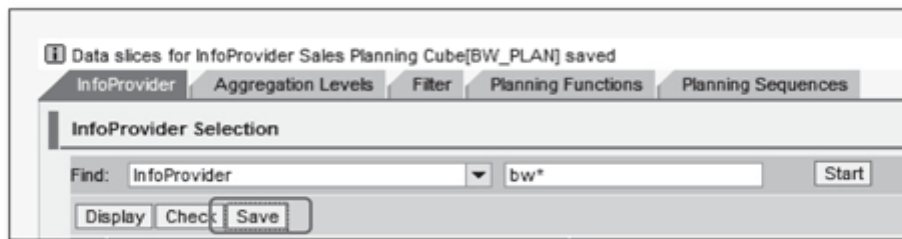

Figure 12.26 Saving Data Slices
7. After you've defined all of the necessary selections for the data slice, click **SAVE** on the **INFOPROVIDER** tab (Figure 12.26).